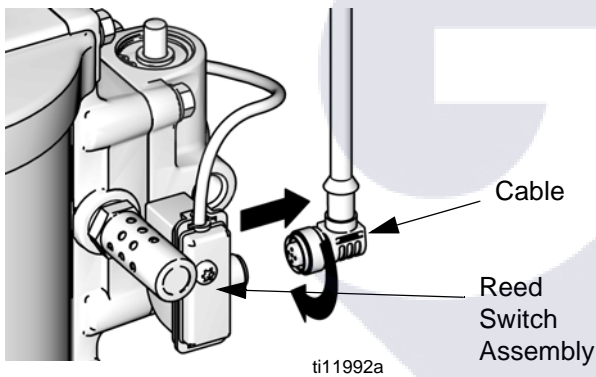

FIG. 6. Disconnect DataTrak
- Unscrew cable from the back of the reed switch assembly. See FIG. 6.